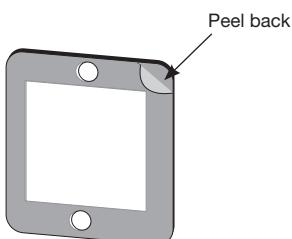

Fig. 5A
1. Carefully remove adhesive backing from the gasket (Fig. 5A).